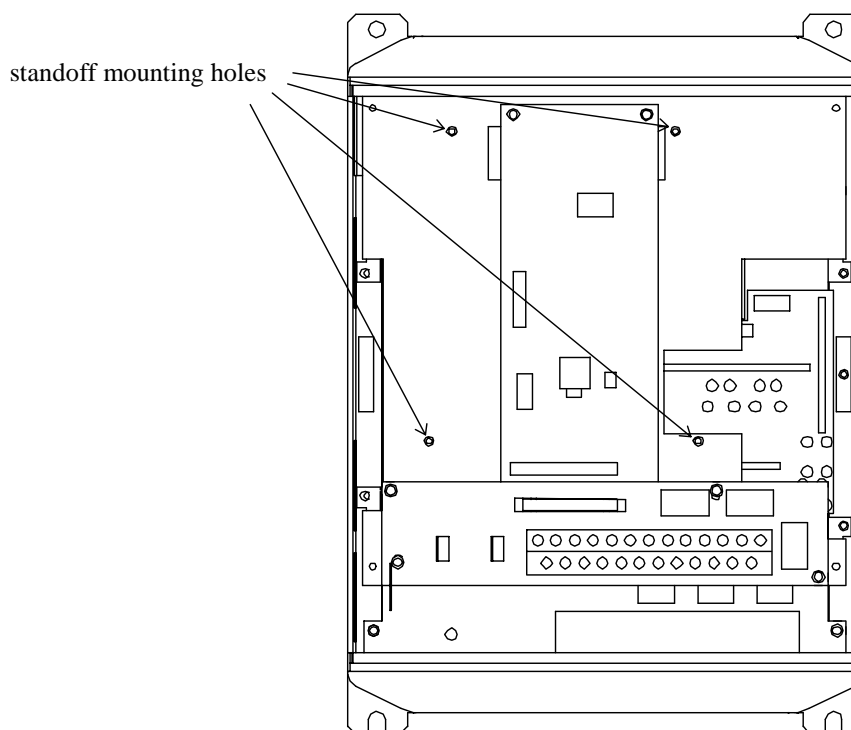

Figure 2: G3 with front cover and operation panel support bracket removed
8. Install the 4 plastic option board standoffs into the holes provided in the control board support bracket (refer to Figure 2).